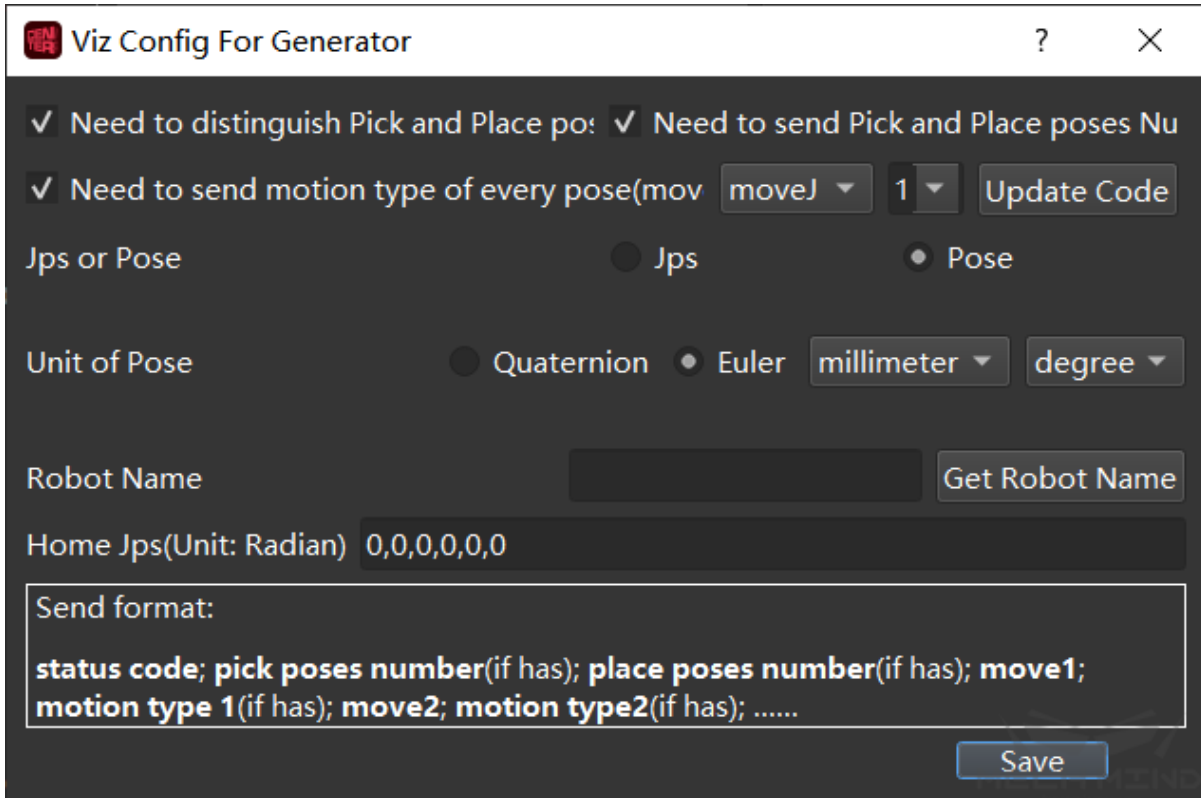

Figure 4 Mech-Viz config settings
- Mech-Viz Config for Generator: The interface appears after clicking “Use Mech-Viz to Check Collisions” , as shown in *Figure 4*. Click *Save* in the lower right corner when finished.